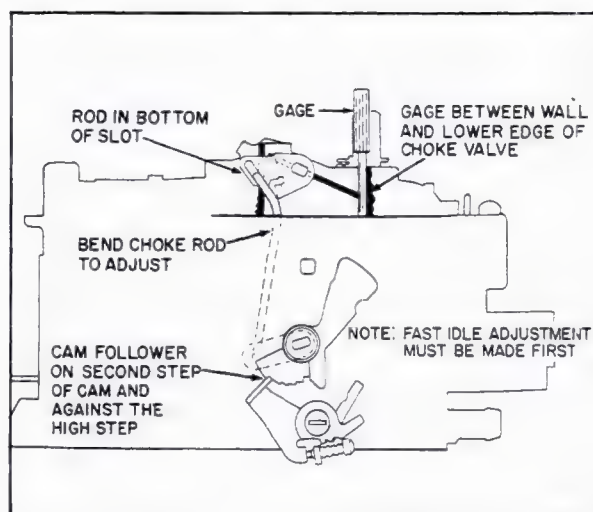

Fig. 6-79 Choke Rod Adjustment
### 82. Choke Rod Adjustment (Fig. 6-79)
4. Bend choke rod, Fig. 6-79 to adjust.